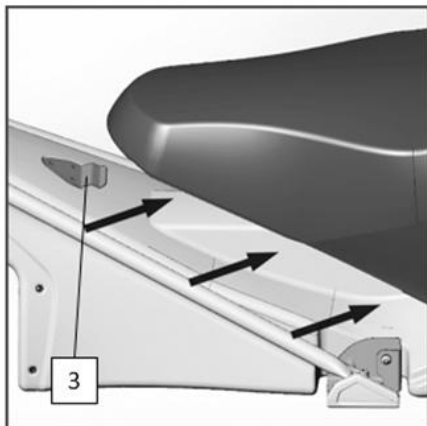

Fig. 22
1. Remove the seat from the fixed plate (posture 3, Figure 22), push the seat to the trunk of the snowmobile, and lift the rear of the seat 15cm.